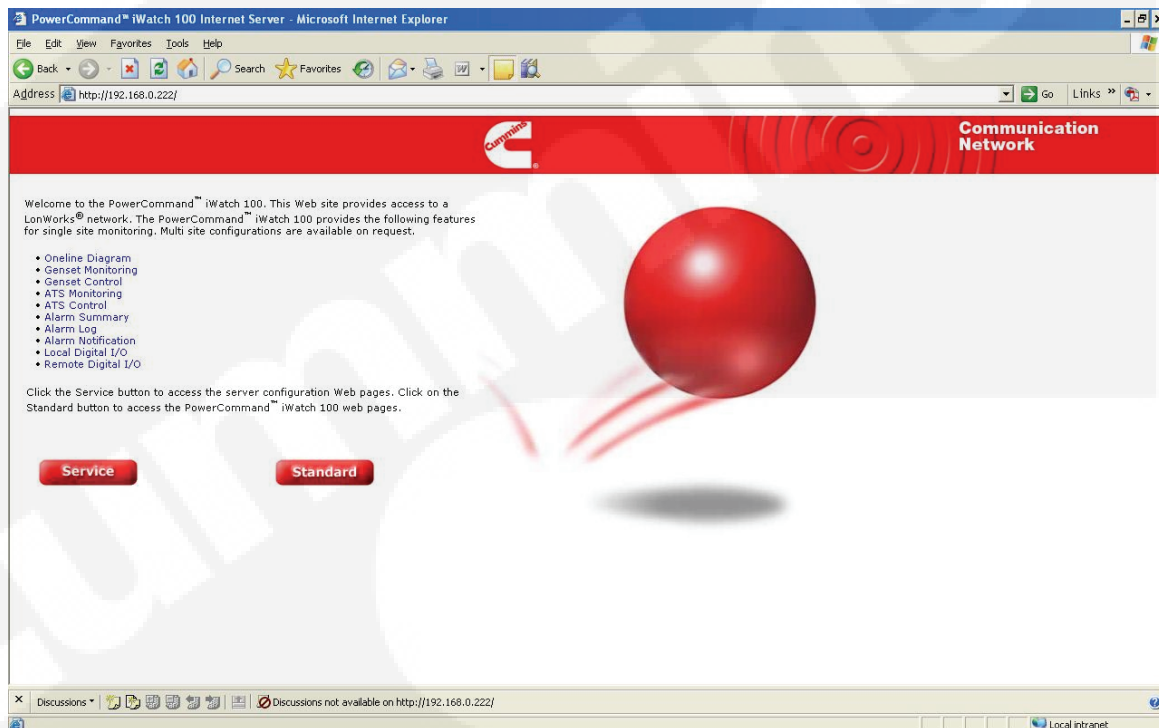

FIGURE 4-33. SERVICE OPTION FOR CUSTOMER CONFIGURATION REQUIREMENTS
3. When the new page opens, choose **Service**, which will allow you to enter the customer's configuration requirements (see Figure 4-33).
1. From the web page, choose **Service** (see Figure 4-33).